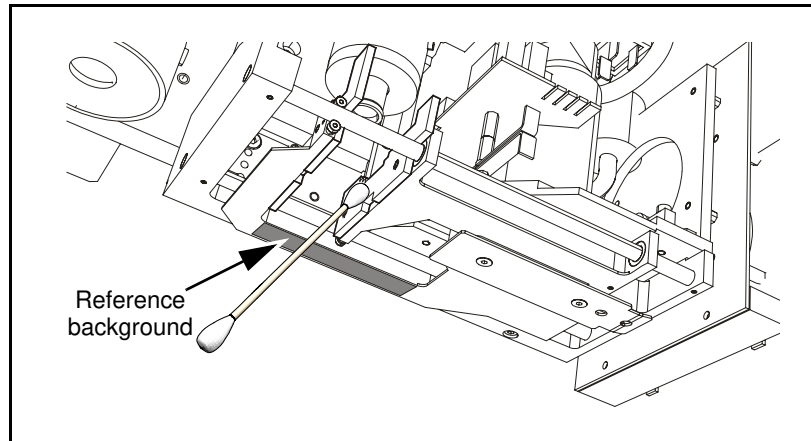

Figure 18-1. Centering jaws.
- Clean the centering jaws and Linescan reference background using a cotton wool bud slightly wet in alcohol, see Figure 18-1.
- Clean the Linescan reference background using a lint-free cloth slightly wet in alcohol, see Figure 18-1.